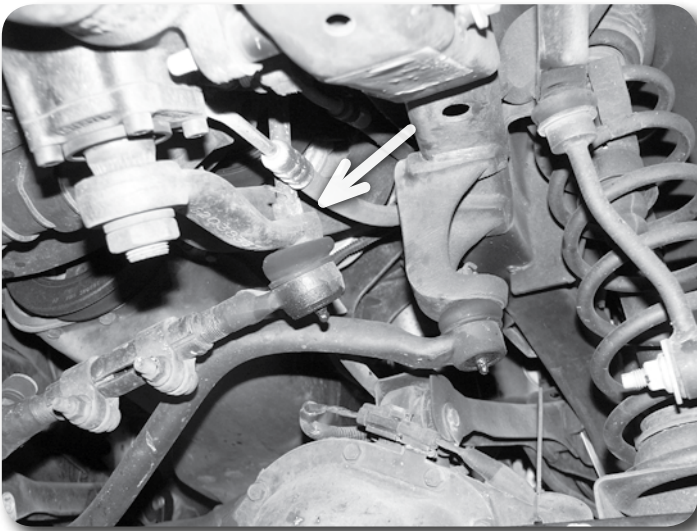

Figure 3
8. Remove the cotter pin and castellated nut from the drag link end at the pitman arm (Figure 3). Thread the nut back on a couple of turns. Strike the pitman arm near the drag link end to release the tapered seat. Take care not to damage the end. Remove the nut and the drag link from the pitman arm. Save hardware.